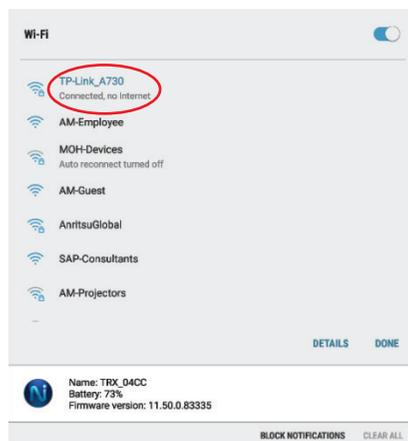

Figure 2-3. Default SSID of Router
- SSID and wireless password. The default SSID is located on the bottom label of the router and is displayed on the Android device as shown in Figure 2-3.